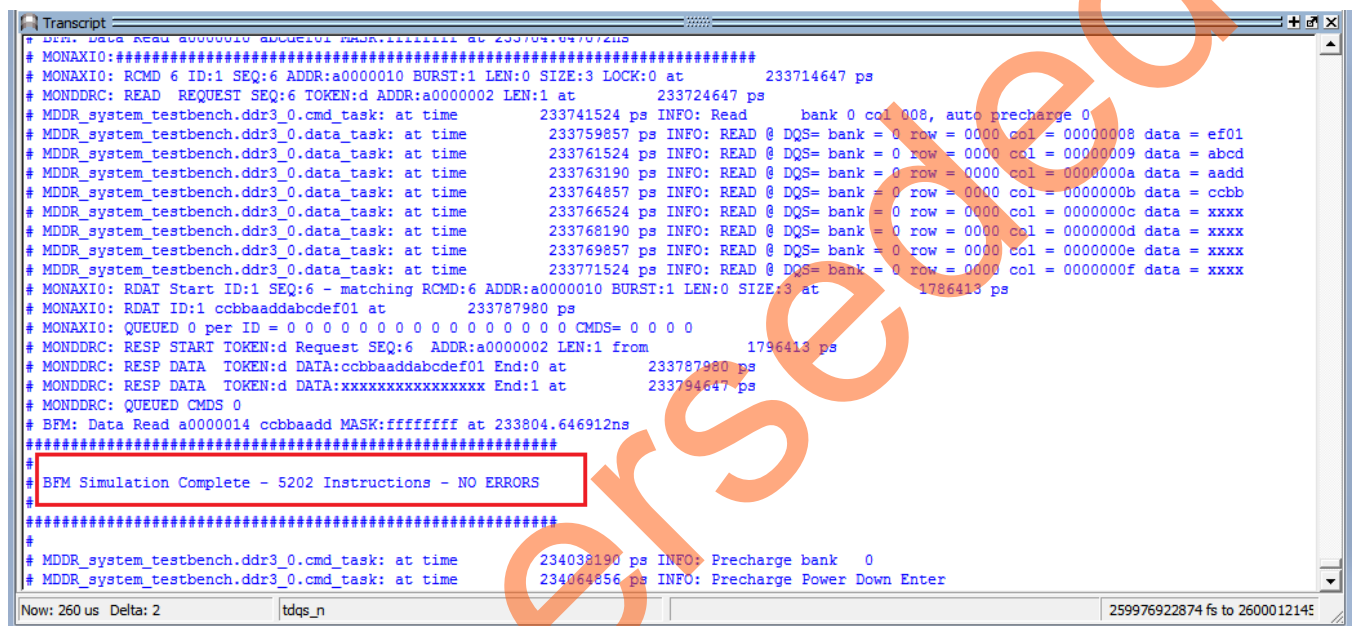

Figure 39. ModelSim BFM Simulation Transcript Results
2. The ModelSim transcript window displays the BFM commands and the BFM simulation completed with no errors, as shown in Figure 39. Scroll in the window to see the different commands. In the BFM script provided in the user.bfm earlier, the **readcheck** command reads the data and verifies if the data read matches with the value provided along with the readcheck command. If the value read does not match, the simulation shows an error.